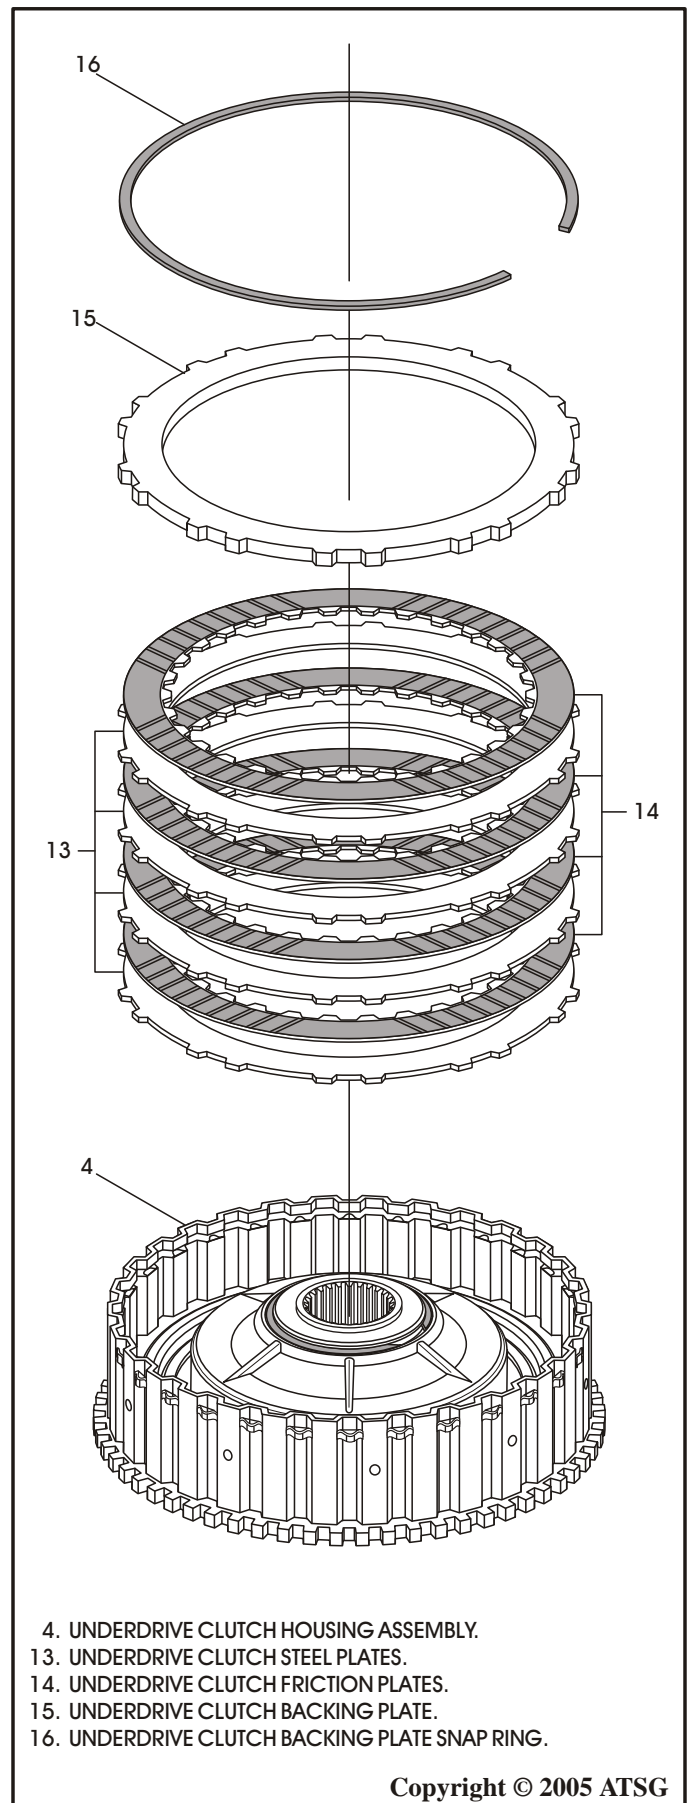

Figure 115
12. Install the underdrive clutch plates beginning with a steel plate and alternating with friction plates, as shown in Figure 115, until you have installed four of each.
14. Install the underdrive backing plate selective snap ring, as shown in Figure 115.